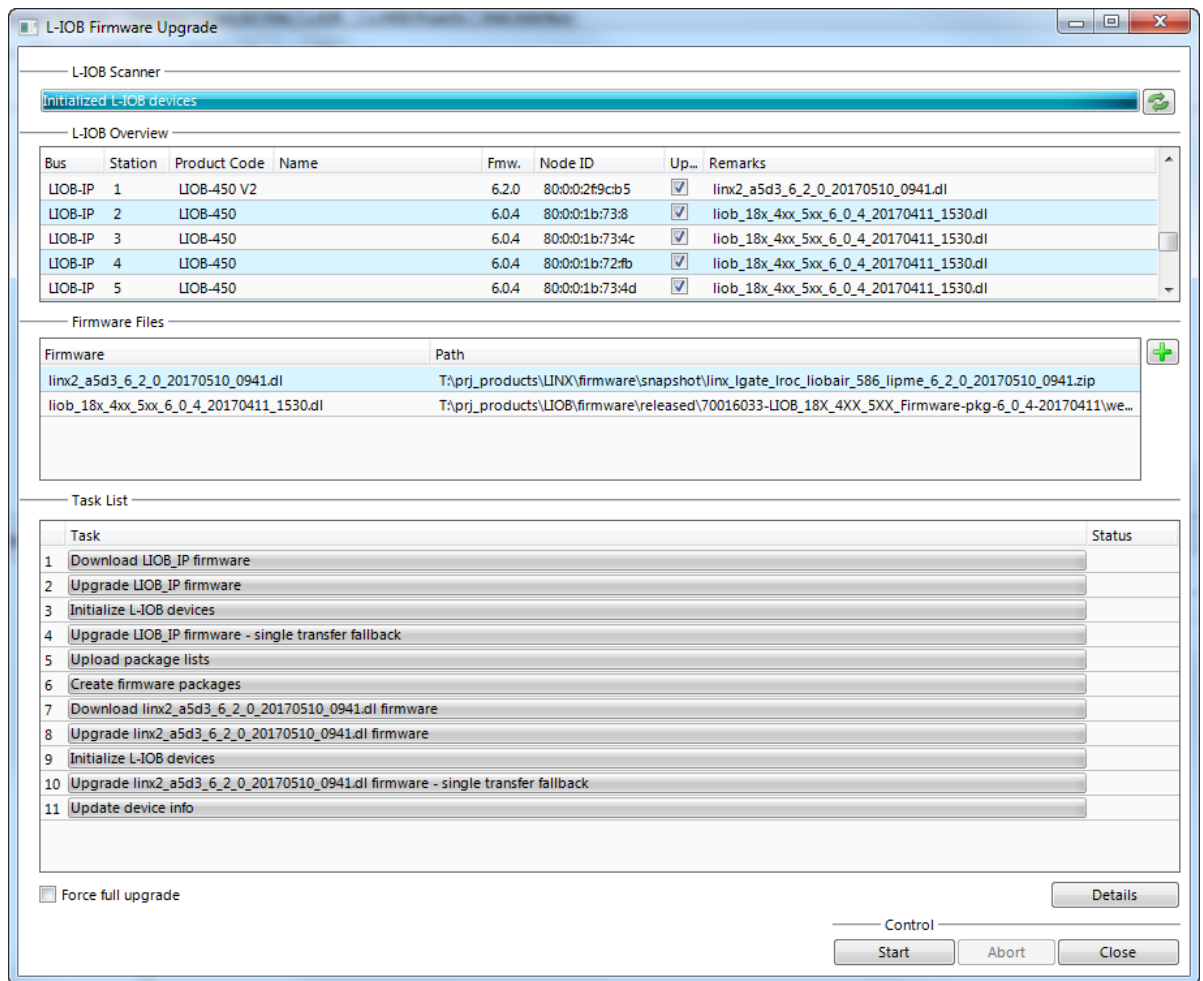

Figure 314: L-IOB Firmware Update dialog of the Configurator
3. This opens the Firmware Upgrade dialog as shown in Figure 314 and starts the detection of all connected L-IOB devices. Using the **Upgrade** checkbox in the **L-IOB Overview** list, it is possible to choose which devices shall be upgraded.